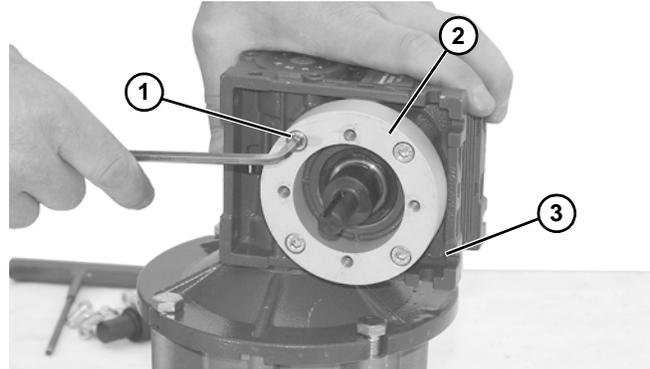

Figure 27
Step 2 and (Figure 27, item 2) is required for standard load VFD gearmotors only.
2. Loosen four (4) socket head screws (**Figure 27, item 1**) and detach spacer (**Figure 27, item 2**) from gear reducer (**Figure 27, item 3**).